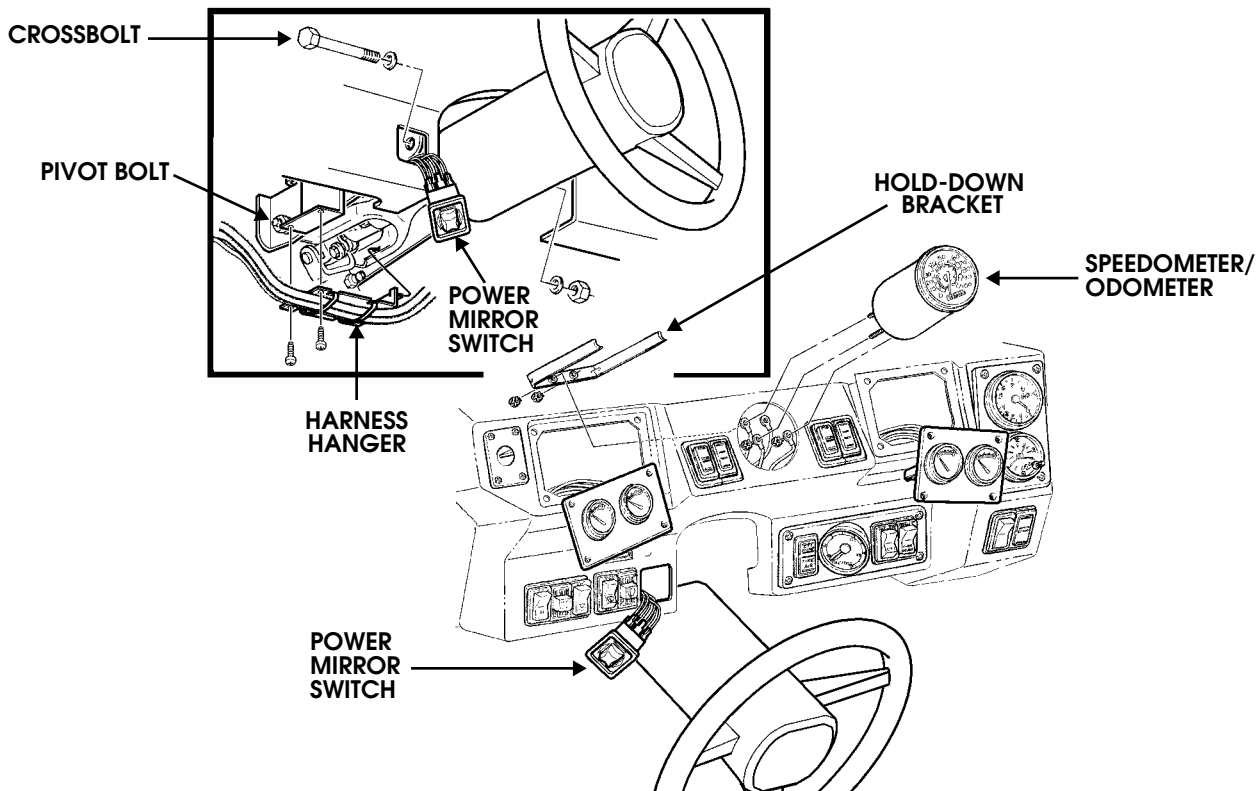

Figure 10-21: Speedometer/Odometer Replacement
1. Insert speedometer/odometer into instrument panel and secure with hold-down bracket, electrical leads, and nut and lockwasher assemblies (Figure 10-21).